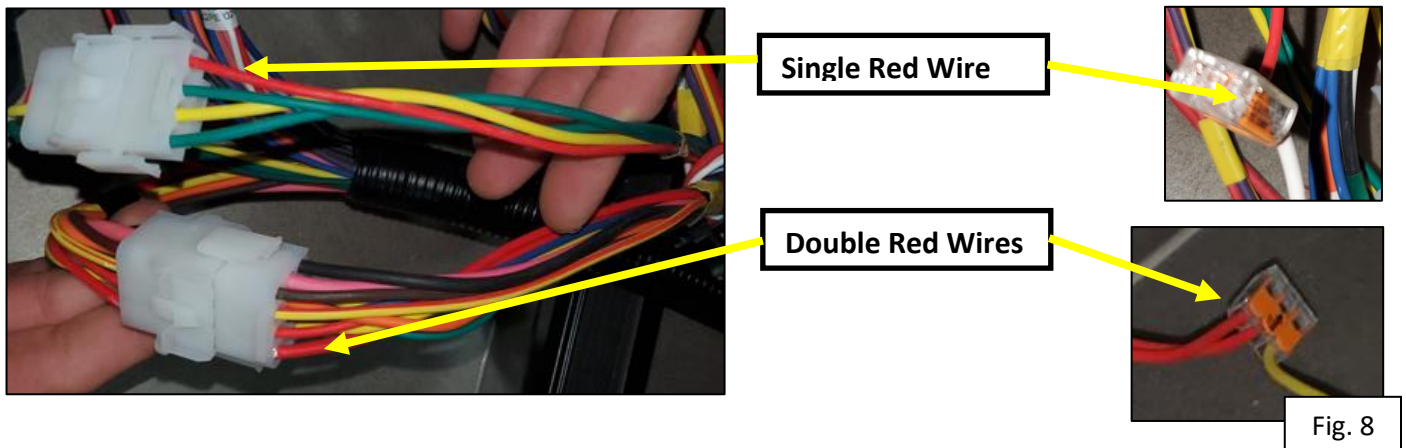

Fig. 5
7. Add a 15A inline fuse holder to the center stud and tighten. (Figure 5)